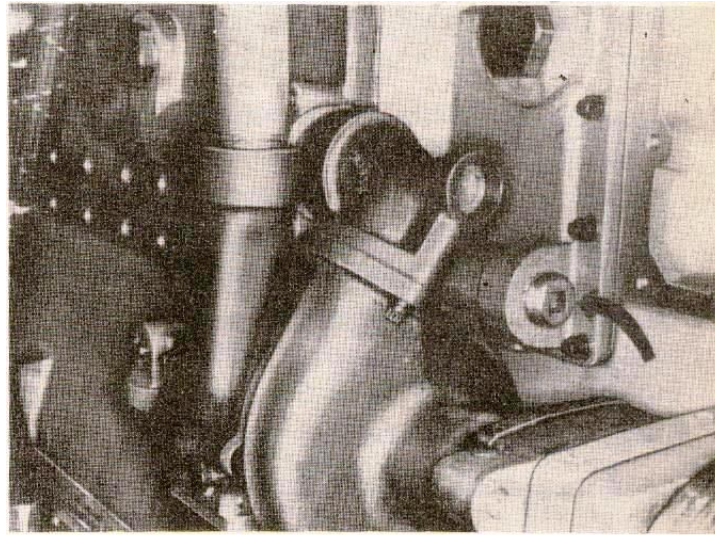

Fig. 14-107, Lubricating system priming point
4. Remove the plug from the lubricating oil cooler housing to the prime system. Fig. 14-107.